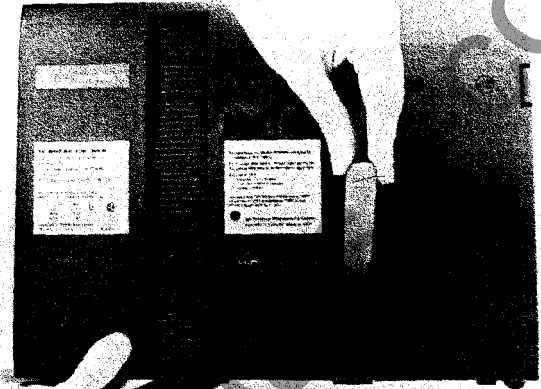

Figure 2. Removal of the breaker top cover.
4. Loosen the four screws at the corner of the breaker cover. Remove the cover from the breaker face, as illustrated in Figure 2.